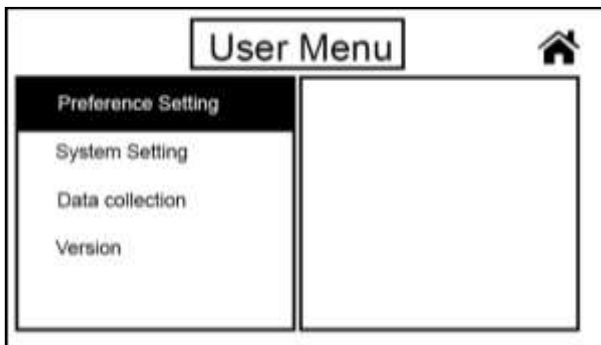
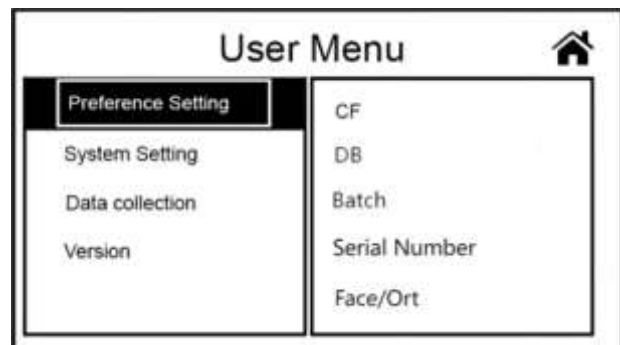

Figure 61
Figure 62
1) Touch the “Menu” key to enter the “User Menu” interface, as shown in Figure 61 below. Then press “Preference Setting” to enter the “Preference Setting” interface, as shown in Figure 62.